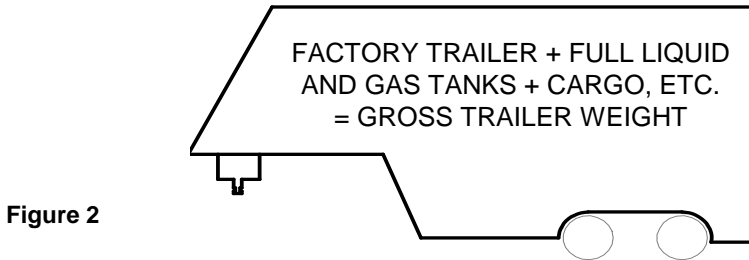

Figure 2
- Towing vehicle must have a manufacturer's rated towing capacity equal to or greater than the gross trailer weight (dry weight of the trailer plus payload of the trailer). (Figure 2)
Gross Trailer Weight (**Figure 2**): _____